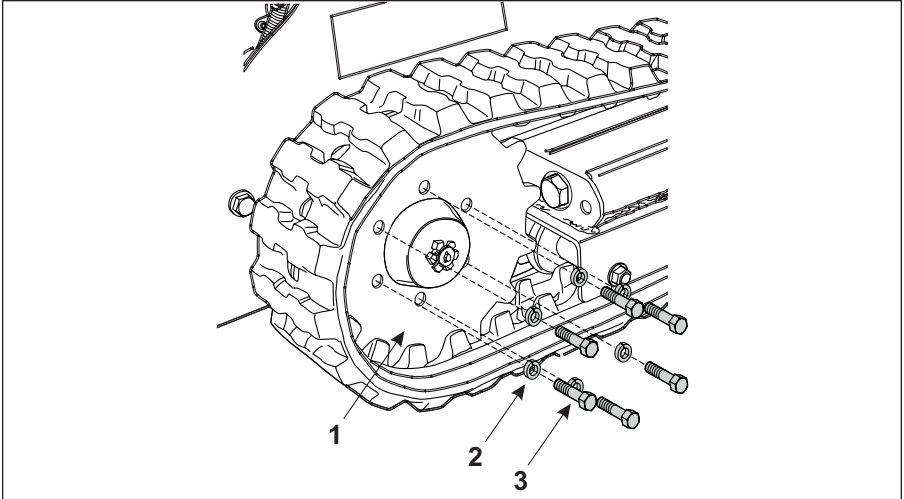

Figure 4-32 Install Track and Drive Sprocket
15. Rotate the drive sprocket (Item 1, Figure 4-32) and track to align the bolt holes.
16. Install and secure the 6 drive sprocket lock washers (Item 2, Figure 4-32) and mounting bolts (Item 3, Figure 4-32).